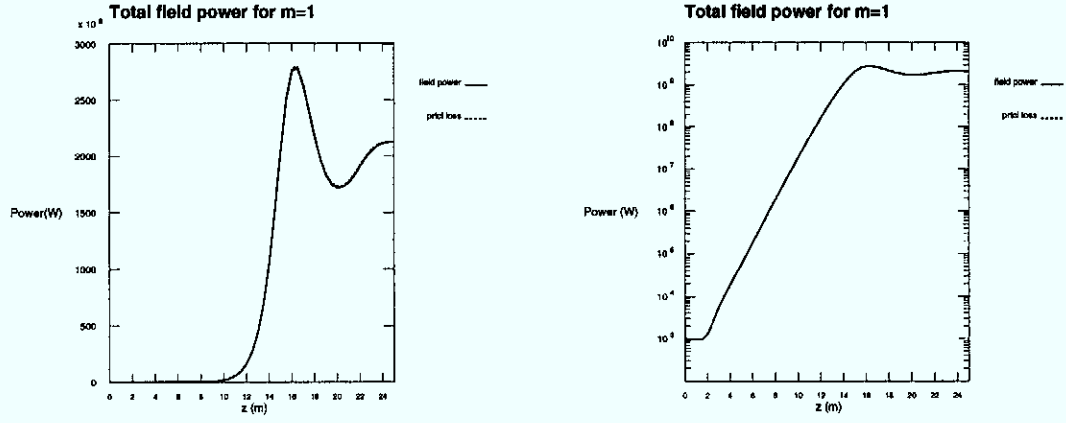

Figure 1: The emitted intensity along the undulator for the input deck presented here.
- Total emitted power (See Fig. 1), both in a linear and semilog scale.